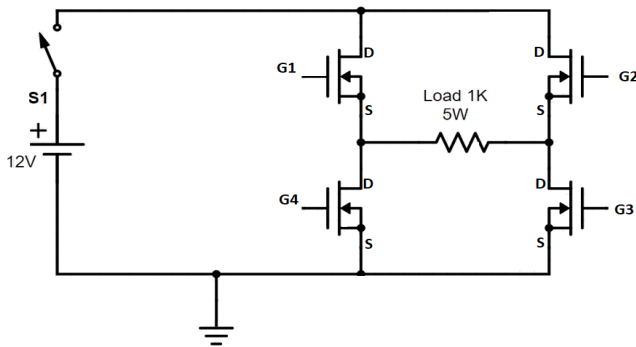

Figure 23
1. Connect the circuit as shown in Figure 23